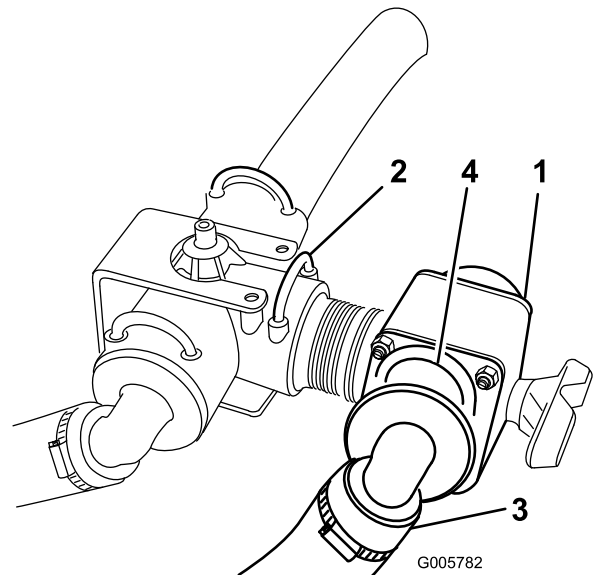

Figure 5
3. Install the new control valve into the open port on the supply tee and secure it with a new retainer (Figure 5).
4. Connect the boom hose you disconnected in step 1 to the open port on the control valve and secure it with the retainer you removed in 1 (Figure 5).